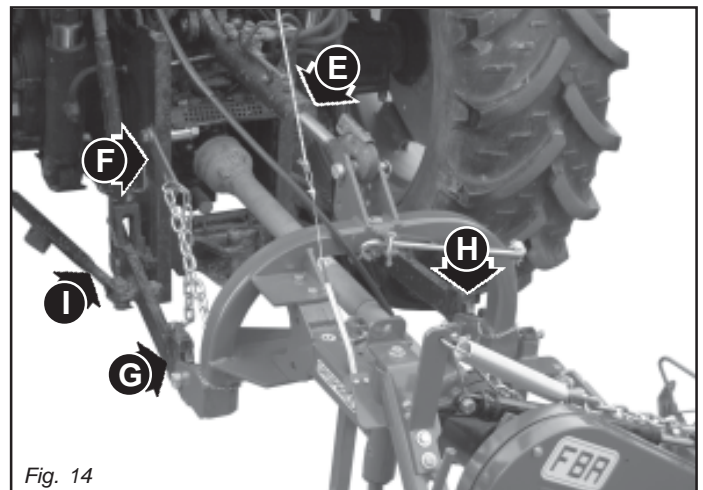
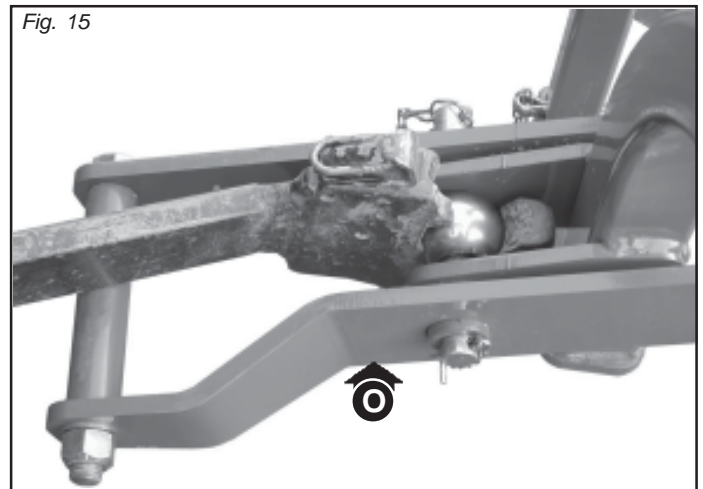

Fig. 14
Fig. 15
- 1) Hook the oscillating arms of the tractor to pins (G and H, Fig. 14). The hoisting arm (O, Fig. 15) must be fixed underneath the tractor arm. Lock in place with the snap-in split pins.
- 2) Connect the upper third-point and correctly regulate by means of the adjuster (E, Fig. 14). Place plate (F, Fig. 14) at the left side of the hicht integral with the same pin. Lock in place with the snap-in split pins.
- 3) Lock the lift links using the relative chains (I, Fig. 14) and couplings parallel to the tractor. This operation must be carried out to prevent the machine from moving in a horizontal direction.